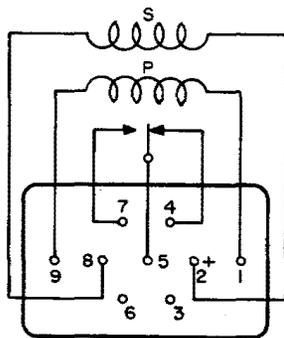

Fig. 75 – Winding and Spring Terminal Numbering — 316-Type Relays
2.81 The contact and winding terminals are numbered in accordance with the BSP figures referred to on the circuit requirements table. As viewed from the rear, the winding and spring terminals are designated as shown in Fig. 75.